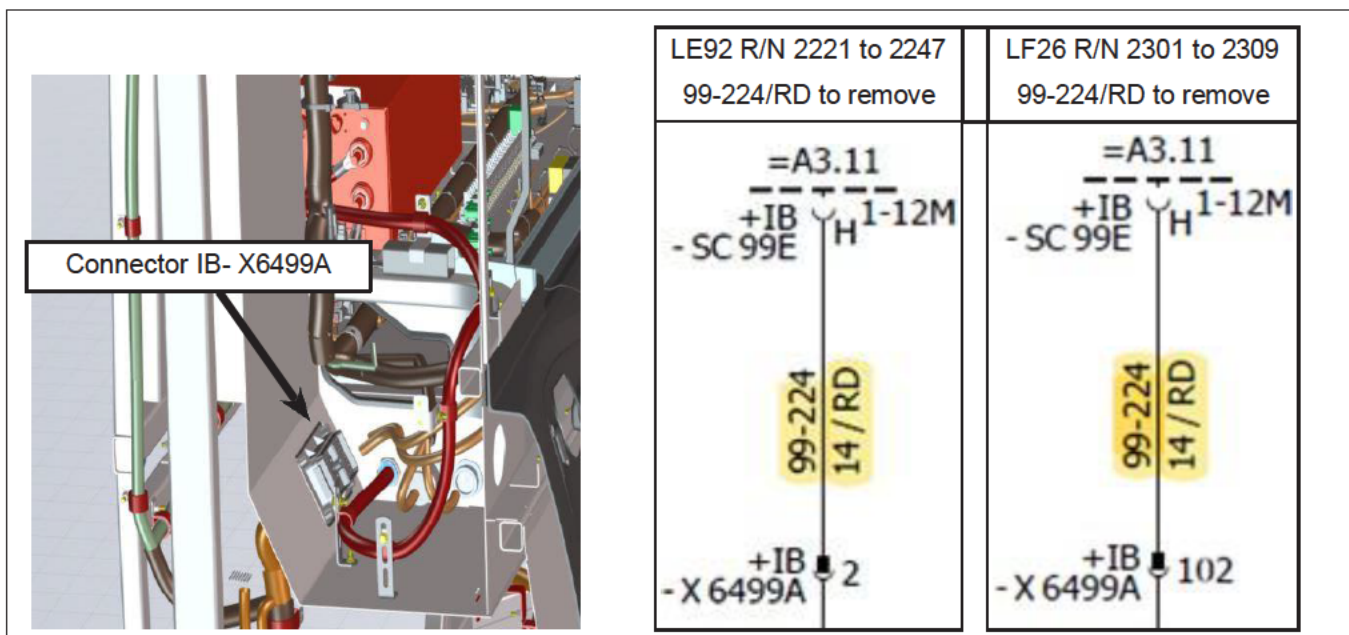

Figure 4 - Wire 99-224 to remove
- 1.13. Remove and tapeback wire 99-224/RD from connector IB-SC99E and IB-X6499A. See Figure 4.